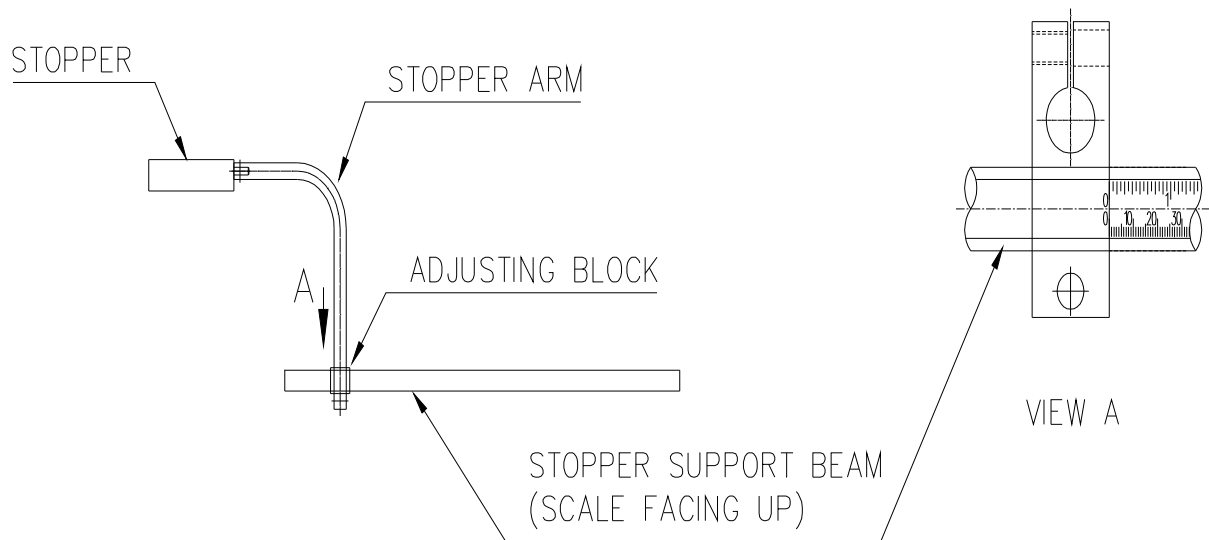

FIGURE 1
1. Mount the stopper arm at the "0" point on the stopper support beam as illustrated on following figure1.